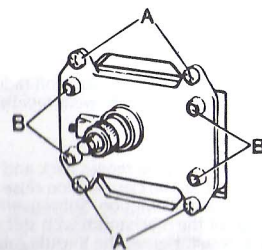

Fig. 16
- Secure the mechanism with the 4 selftapping screws supplied (Fig. 16) and remove the lever.
- Fit the cover. Make sure the tabs snap properly into the lugs (B fig. 16).